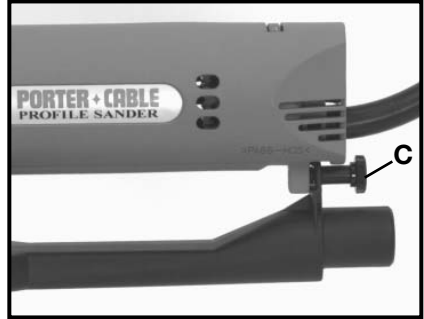

Fig. 14
2. Thread knob (C) Fig. 14 into tool, and tighten firmly.